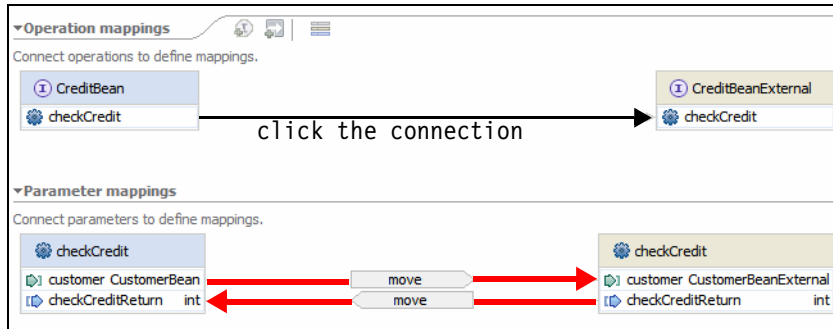

Figure 16-36 Create the mapping
- ▶ Connect the `checkCreditReturn` in the `CustomerBeanExternal` to the `checkCreditReturn` in the `CustomerBean` to map the return parameter, from **right to left** (Figure 16-36).